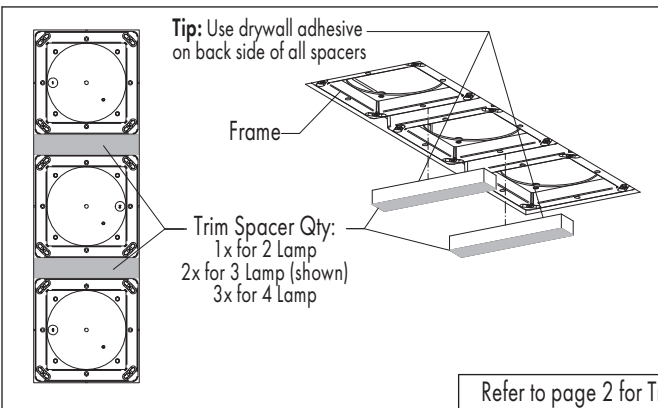

FIG 4.5 Install Trim Spacers for Square Trims
Step 5 For Square Trims only - Secure Trim Spacers (make from drywall/sheet rock cutout) to metal surface on bottom of Housing. Refer to page 3 for cut length required-FIG 4.5 & 4.6.